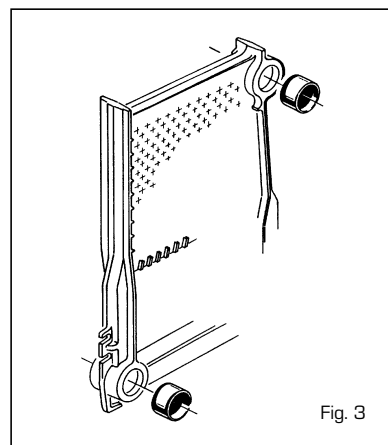

Fig. 3
- prepare one of the two intermediate sections having bosses with 1/2" holes. After lubricating them with boiled linseed oil, insert the tapered nipples (fig. 3);